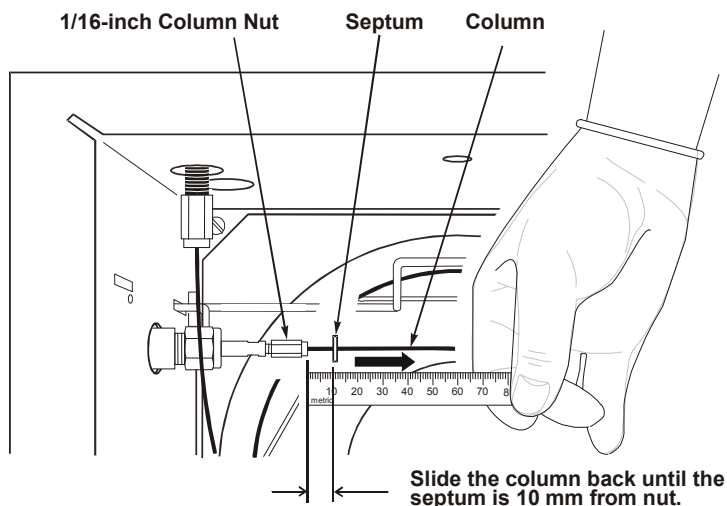

Figure 20 Measuring from the outlet of the column to the front of the septum.
- Slide the column into the Transfer Line tube until the septum is aligned at a distance exactly 10 mm away from the end of the column nut. See Figure 20.